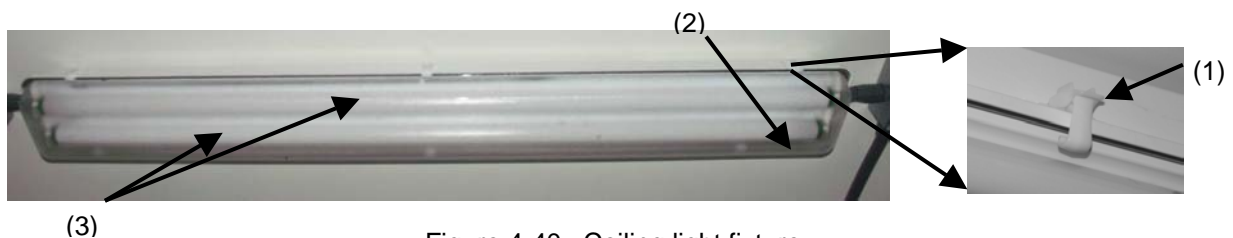

Figure 4-40. Ceiling light fixture.
1. Remove white retaining clips (1) and lens (2) from area ceiling light (Fig. 4-40).
1. Remove retaining clips (1) and lens (2) from fixture (Fig. 4-40).
2. Remove tube locks from both ends of fluorescent lamps (3) (Fig. 4-40).